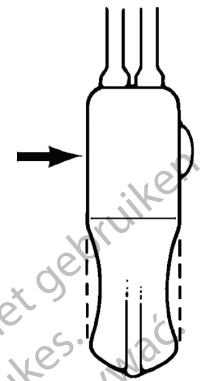

Figure 4-43. Cotton Swab Method
2. Take a cotton tip swab and apply pressure to area directly behind deactivation button. (**Figure 4-43**)